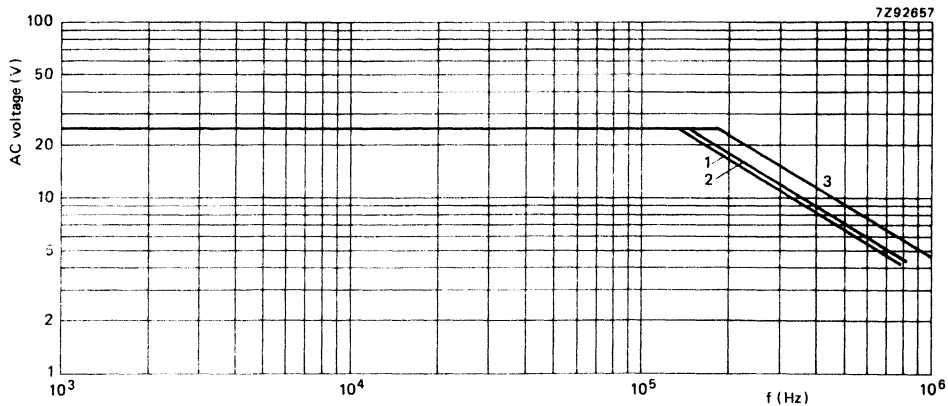

Fig. 2 Maximum AC voltage (RMS value) as a function of frequency at $T_{amb} \leq 55 \text{ }^\circ\text{C}$, for $U_R = 63 \text{ V}$.
* At T_{amb} \leq 70 °C (\leq 55 °C for 63 V version) the maximum permissible sinusoidal voltage can be found in Figs 2 to 5.